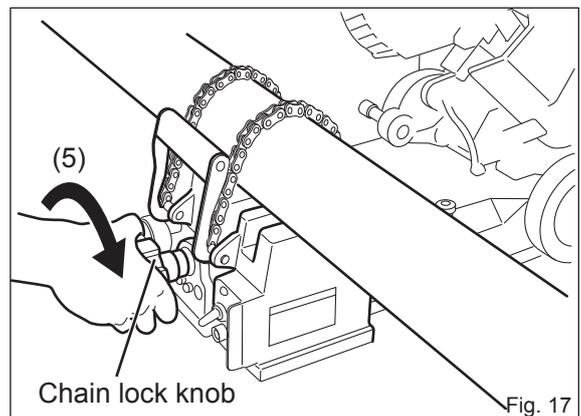

Fig. 17
- (5) Turn the chain lock knob clockwise to tighten the chain (Fig. 17)